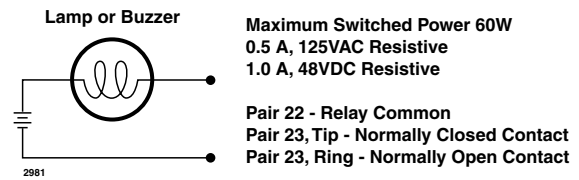

Figure 18 Wiring for External Critical Alarm
1. Connect pair 22 on connector block P1 to one input on the external alarm device (see Figure 18).